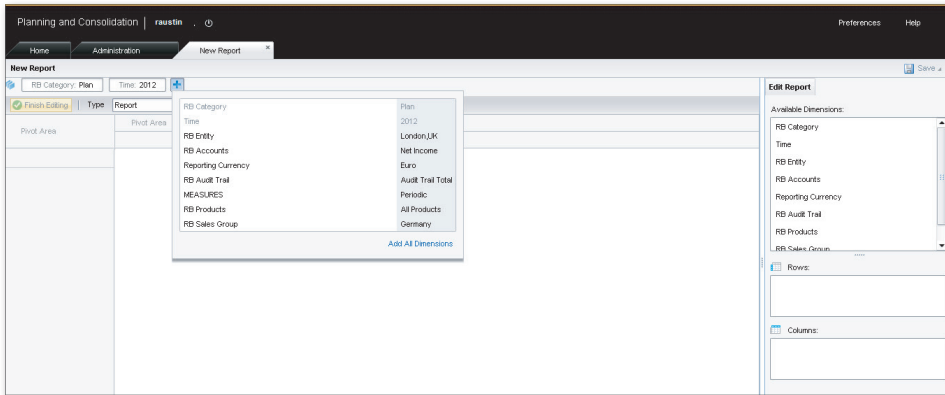

Figure 5.33 Creating a Web Report—Part B
3. Click on the plus icon to display the dimensions in the scope context for selecting the dimension member values (Figure 5.33). The default setting of what to display here is determined by the settings made in the ADMINISTRATION workspace under the CONTEXT DEFAULT view of the RULES DOMAIN. For every model, you can define the default member displayed for a dimension, specify if a dimension is to be displayed, specify if a dimension name or dimension ID is